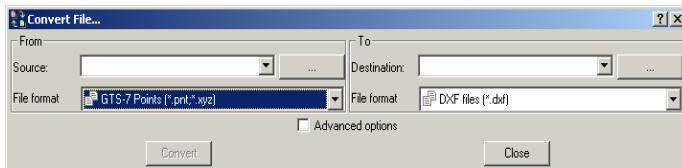

Figure 3-1. Convert File Dialog Box
1. To convert a file from one format to another, click **File ▶ Convert to File**. The **Convert File** dialog box displays (Figure 3-1).